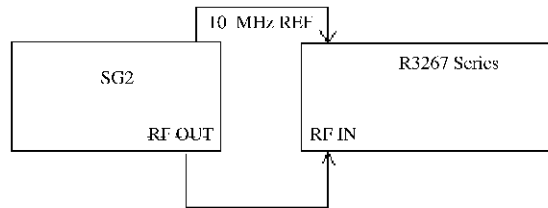

Figure 6-14 Setup of Simplified Performance Check
1. Connect equipment as shown in Figure 6-14.